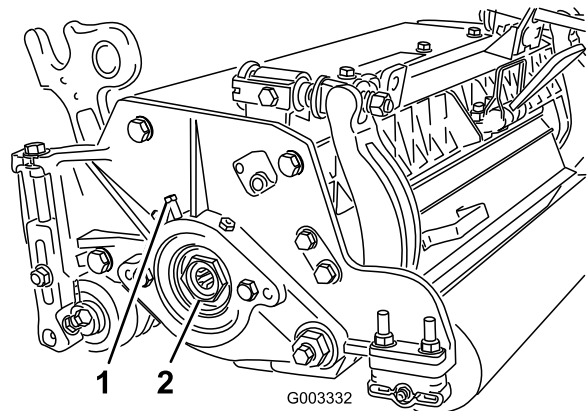

Figure 25
- A. Loosen external set screw securing bearing adjusting nut to bearing housing located on the left side of the cutting unit (Figure 25).